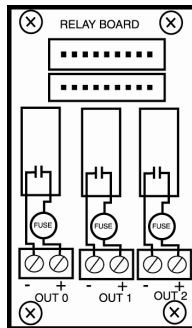

Figure 2.2 Relay Contact Diagram.
- Each relay output has a terminal block with two connections. See Figure 2.2, for the relay contact diagram.